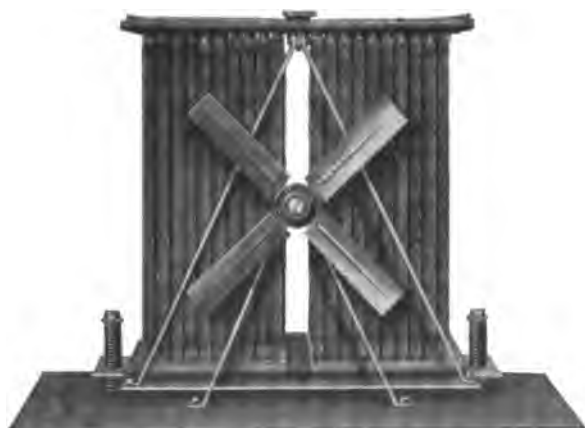

Fig. 29. Front View Radiator.
- 197** — Cooling of the engine is effected by the circulation of water by a centrifugal pump drawing its supply past a valve from the water tank, thence into the bottom of the cylinders, out the cylinder heads and through a large vertical finned-tube radiator and thence returned to the water tank. The radiator is spring mounted to reduce vibration. Fig 29 shows a front view of the radiator assembly.